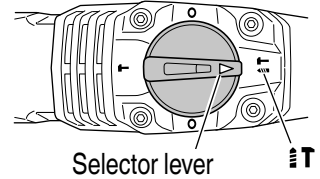

Fig. 15
- (1) Switching to “rotation + hammering”
- (b) Align ▲ of the selector lever and ⚡ of the crank cover as illustrated in Fig. 15.